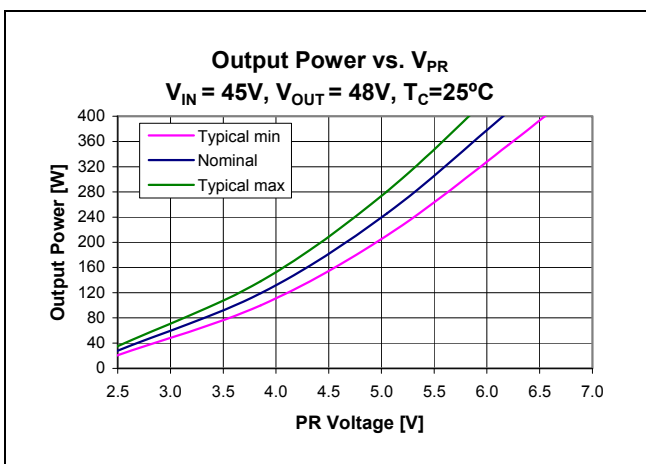

Figure 21 – Output Power vs. V_{PR} ; $V_{IN}=45V$, $V_{OUT}=48V$, $T_{CASE}=25^\circ C$
Control node (PR) is the input to the control node which determines the powertrain timing and ultimately the module output power (Figure 21). An internal 0.5mA current sink is always active. The bi-directional buffer between PR and the control node has two states. In normal operation, PR will be above the 0.79V switching threshold, and will drive the control node through the buffer. An internal 7.4V clamp determines the maximum output power that can be requested of the modulator.